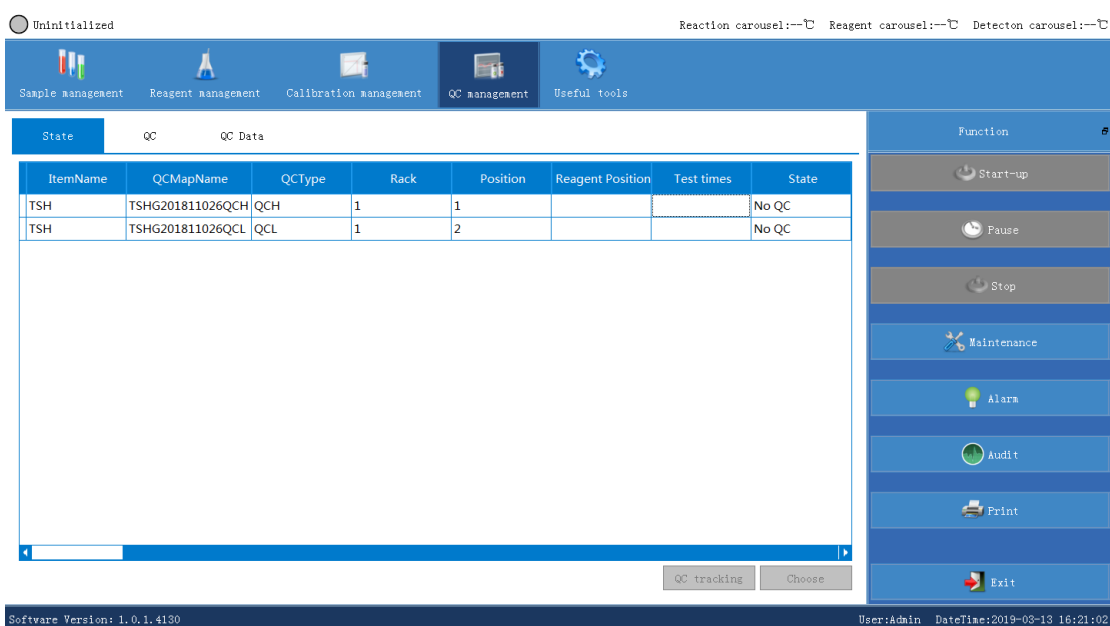

Figure 8.6.9 Set QC position
- A drop-down list will appear, as shown in Figure 8.6.9.
- Set the QC test times and click **OK**. In the **Status** column, the background color changes from white to light green, and the set test times will be shown in the **Test times** column as shown in Figure 8.6.9: